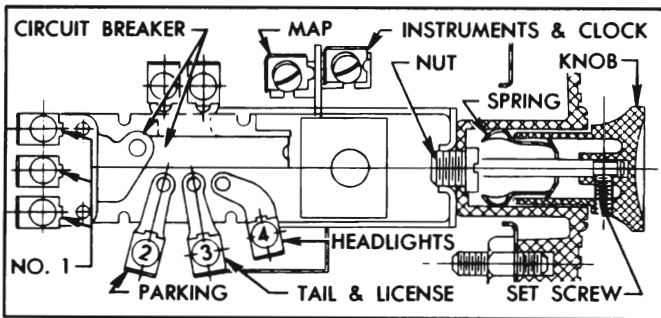

Figure 10-81—Lighting Switch—Series 40-50-70
2. Loosen knob retaining set screw with a $\frac{3}{32}$ " Allen wrench and remove knob from rod. Remove switch mounting nut with Wrench J 1589 and remove switch from panel. See figure 10-81.